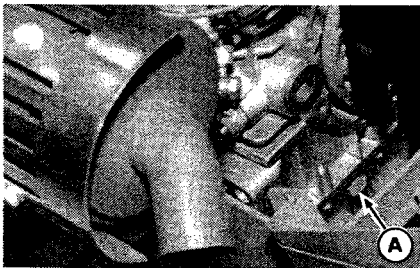

Figure 19.
1. Remove the drain plug (A, figure 19) to drain the oil.